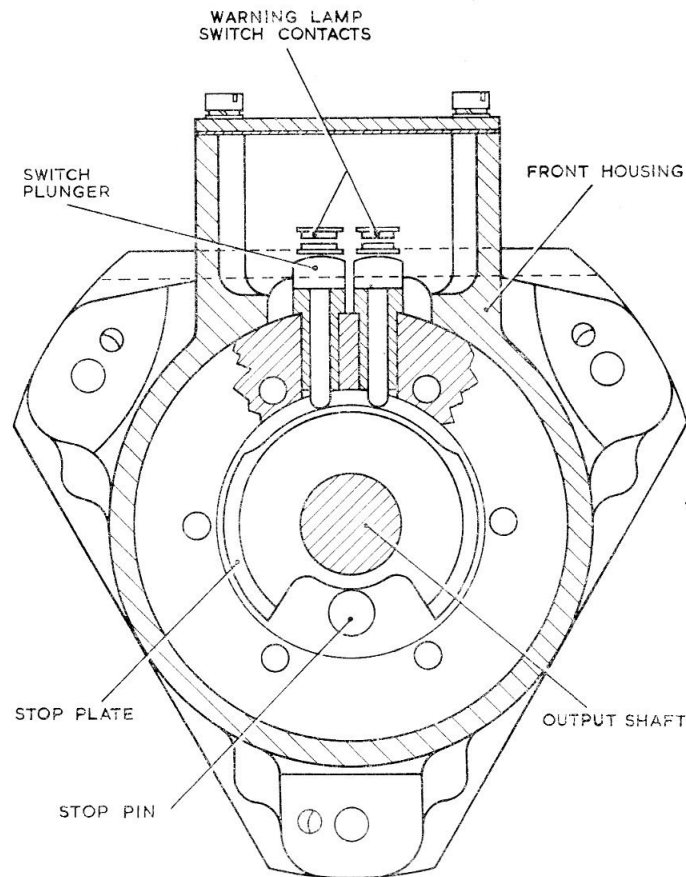

Fig. 4. Output shaft cam profile
8. At the opposite side of the stop plate is a cam formation, against which bear two spring-loaded plungers (fig. 4). As the output